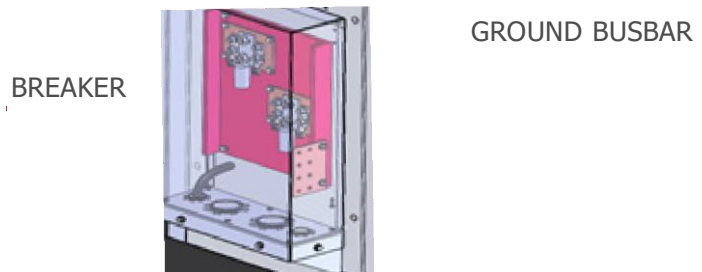
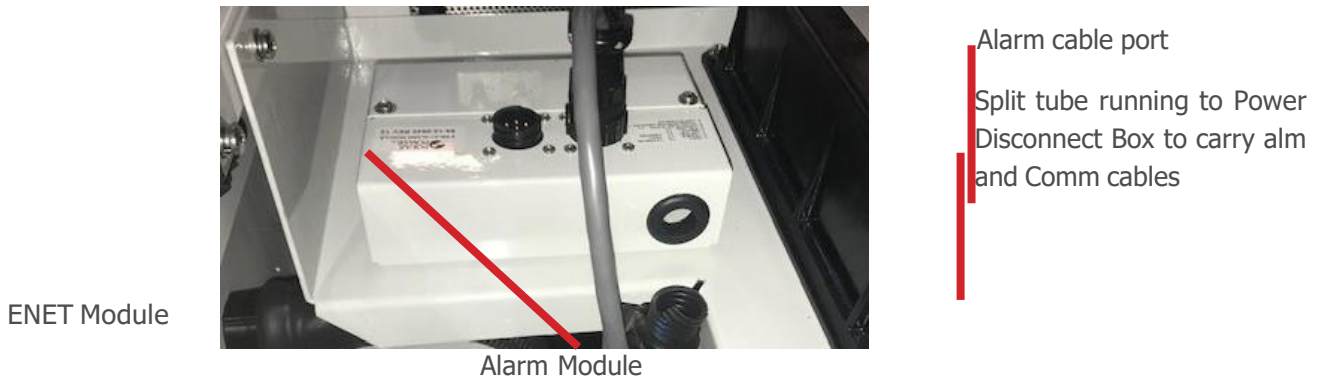

Figure 12
Figure 13
If the standby DC generator set is fewer than six feet from the cell or hub equipment, see Figure 11 for guidance on bonding and grounding. If greater than 6 feet from the cell or hub equipment, see Figure 12. All bonding and grounding shall use #2 bare, tinned solid copper wires. Terminations shall employ approved connectors and lugs and/or welds. In both cases, if other metallic structures such as tower legs, bollards, fuel tanks, and the like are closer than 6 feet, bonding wires shall be run between them.
Figure 11 below shows the location of the ground busbar relative to the Breaker box. Figure 12 shows the ground bar and 3 available ground positions.
4. Route the alarm cable and Comm Cable inside the Generator Disconnect box to the 3/4" access hole on the back wall of the box (see Figure 12 for location) and into the generator enclosure. Once inside the enclosure, route the alarm and comm through the factory installed split tube and up to the alarm/control/enet panel. See Figure 13 below.